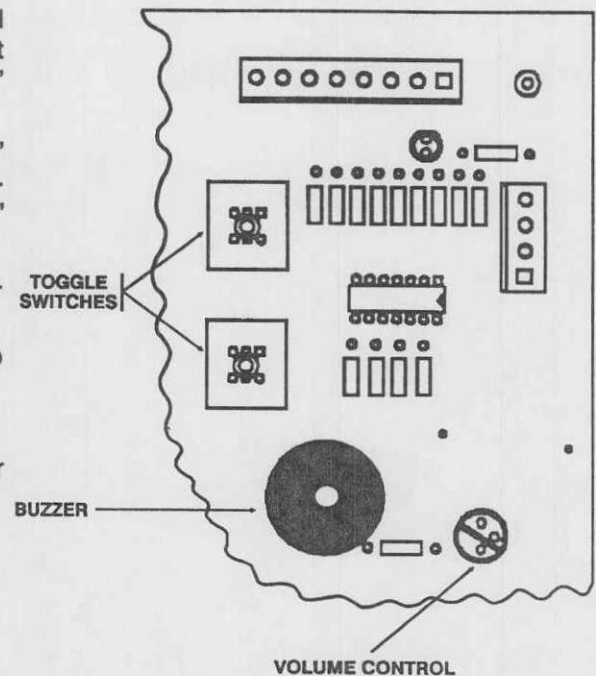

Figure 3-4. Volume control and switches.
(7) Depress the power "ON" switch on the control panel and note the volume of the alarm. If you want to adjust the volume of the alarm (buzzer), rotate the "VOLUME" control resistor "R28" (fig 3-4).
(8) Verify the correct positions of toggle switches "S1" and "S2." "S1" should be set to the "NORM" (normal) position and switch "S2" should be set to the "AERATOR/WARM" position (fig 3-4).
(9) Close the control housing by completing the following actions: